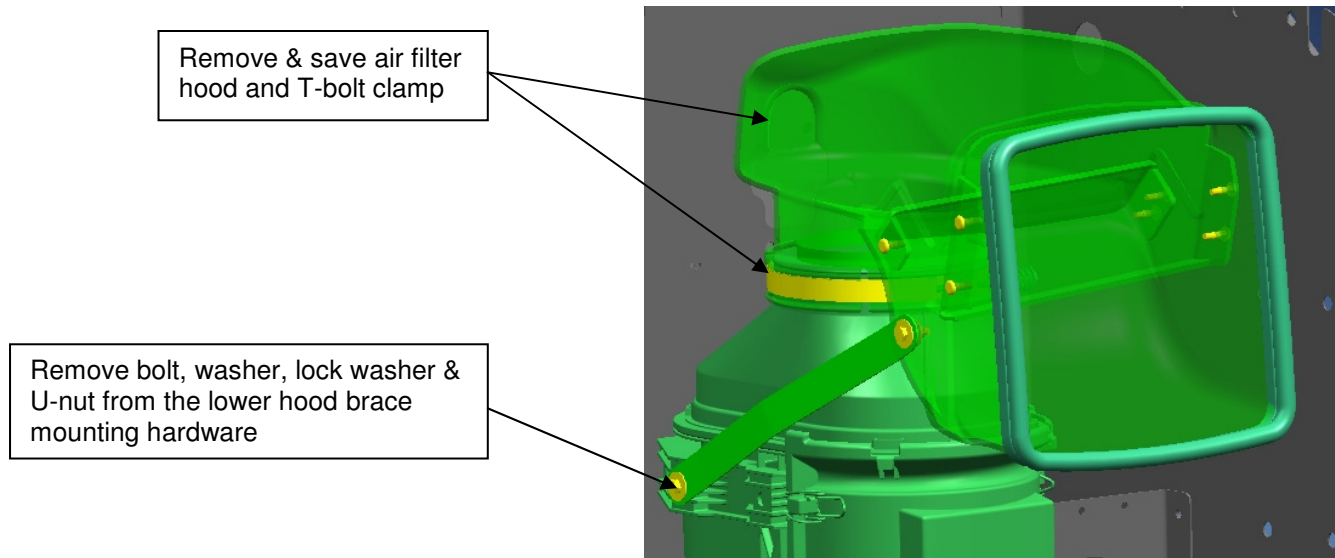

Figure 5: Air Filter Hood Removal
13. Remove the lower hood brace bolt, washer, lock washer and U-nut and loosen the 7.5" T-bolt clamp between the upper housing and the hood. Remove the T-bolt clamp and the hood and set aside to be reused later in this install, discard hardware. See figure 5.